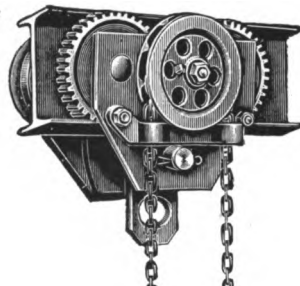

Fig. 758
**Fig. 758.**—These trolleys have all the advantages of construction contained in the Plain Steel Plate Trolley. The Gear Drive allows the traveling of heavy loads with great ease. Generally used for three tons and above.